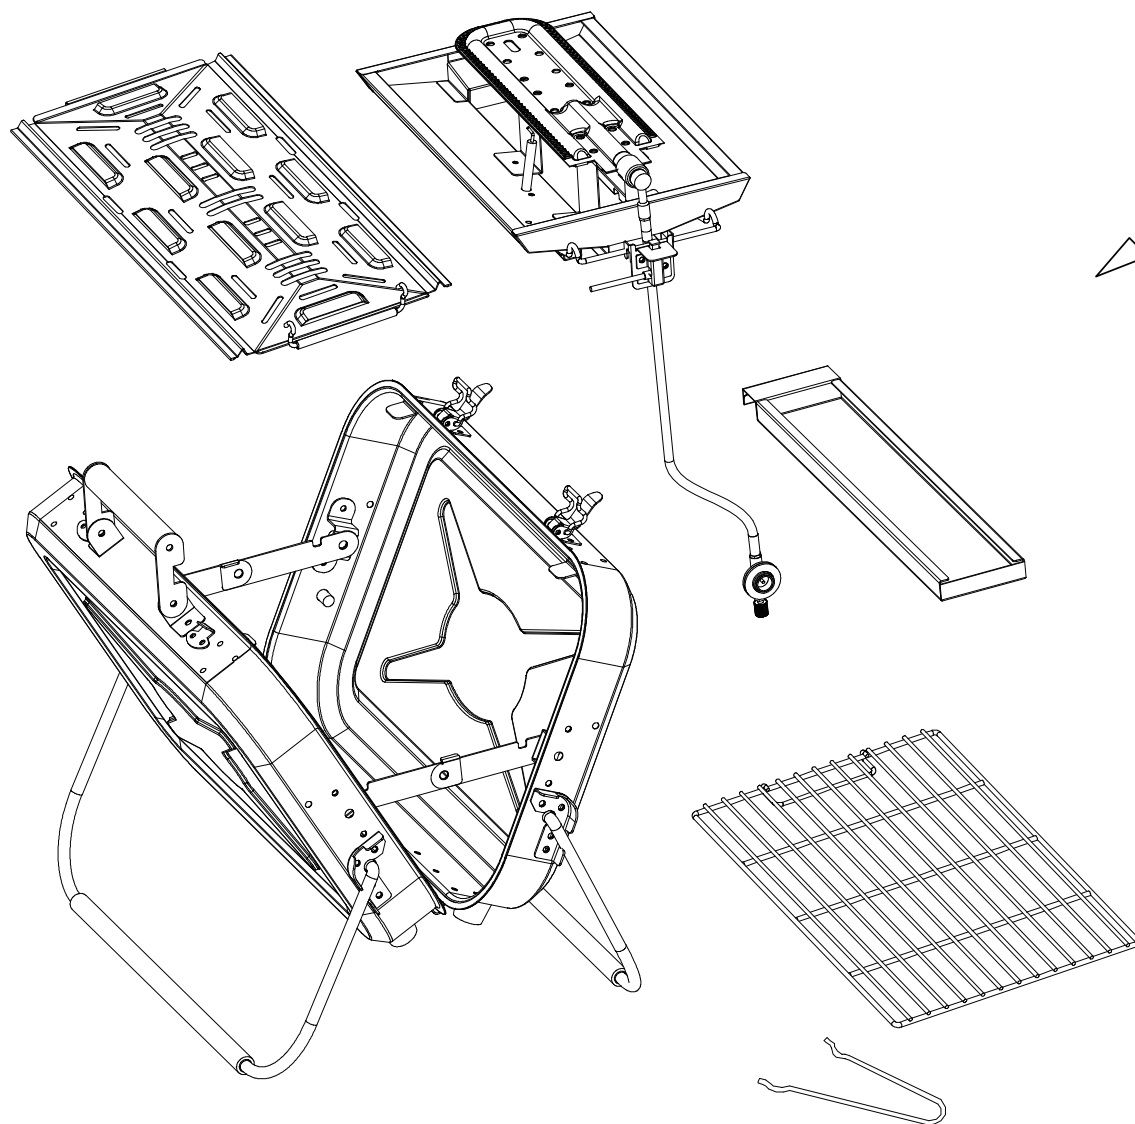

FIG4
- (2) Take out all accessories as shown in Figure 4.